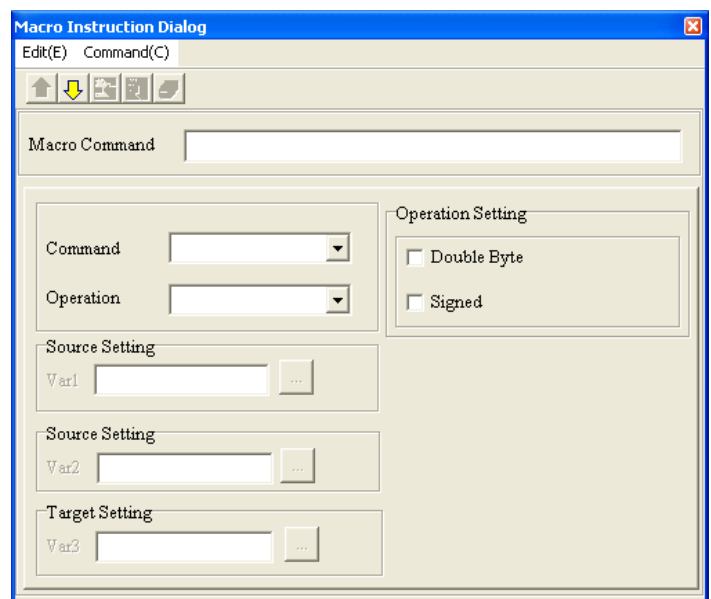

Figure 5-13 Macro Instruction Dialog window
The users can directly type instructions in the **Local Macro Setting** window. After they click **Edit Macro Instruction** on the **Edit (E)** menu, or  on the toolbar, the **Macro Instruction Dialog** window will be opened, as shown in Figure 5-13.